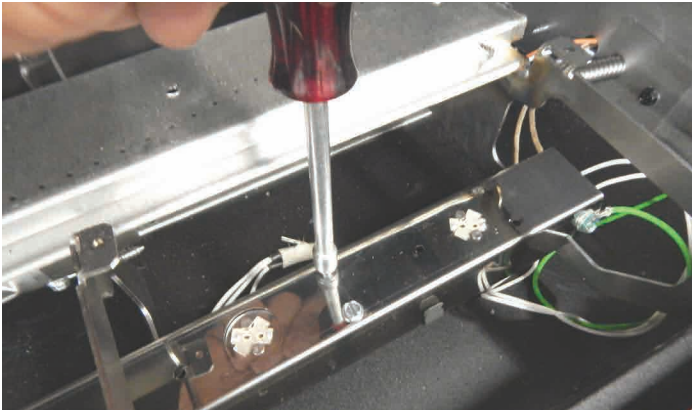

Figure 9
- Align the Center Light bracket onto the two center burner brackets, then place the Left and Right Light bracket ends on top of the Center Light bracket ends. There are 1/8 inch x 1/8 inch notches on the bottom edges of the Light brackets that will nest onto the burner brackets. When installing in the DVLL36BP fireplace, the Left and Right Light brackets will overlap the Center Light bracket approximately 6 inches. When installing in the DVLL48BP fireplace, the Left and Right Light brackets will overlap the Center Light bracket about an 1 inch. Secure the Left and Right Light brackets to the Center Light bracket with (4) # 8 x 1/4" Screws as shown in **Figure 9.**